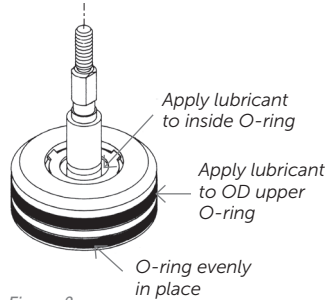

Figure 3
2. Begin assembly by applying lubricant (S1) on the diaphragm/retainer assembly (P6) orings (see Figure 3).
3. Make sure the O-ring between the diaphragm and retainer is evenly in place (see Figure 3), and then install the diaphragm/retainer assembly (P6) in the valve body (P14) and push the retainer all the way down.